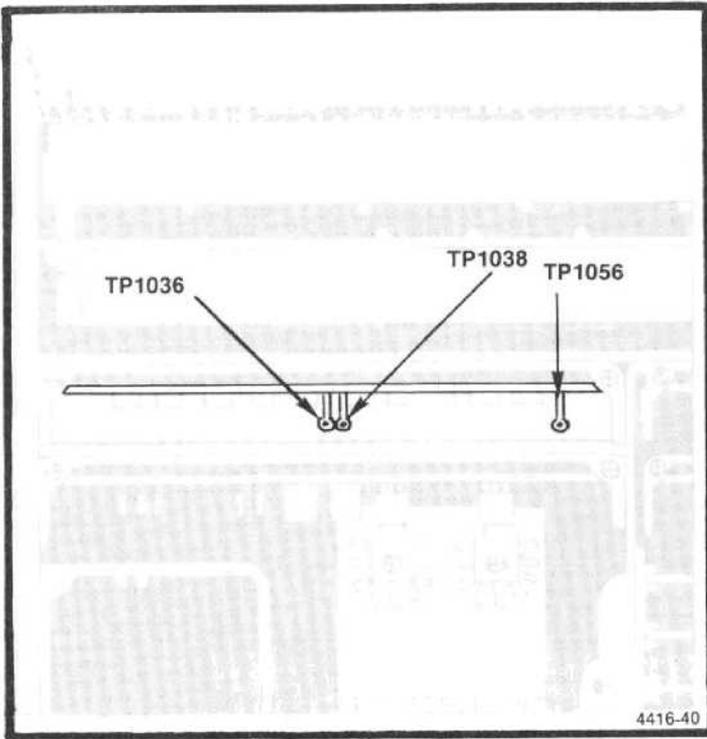

Figure 5-5. Test points on the Crt Readout board.
h. Disconnect the DVM, set TIME/DIV to AUTO, change the test oscilloscope to Ext Trigger and apply the Readout Off signal, at TP1038 on the Crt Readout board (Figure 5-5), to the test oscilloscope Ext Trigger input. Set test oscilloscope Time/Div to 2 μ s.